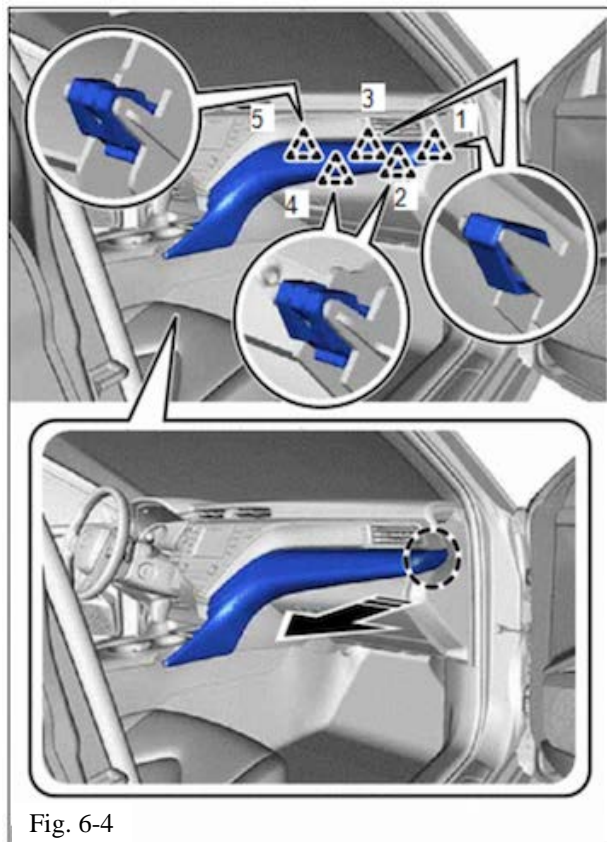

Fig. 6-4
(1) Disengage the 5 clips in the order shown in (Fig. 6-4).